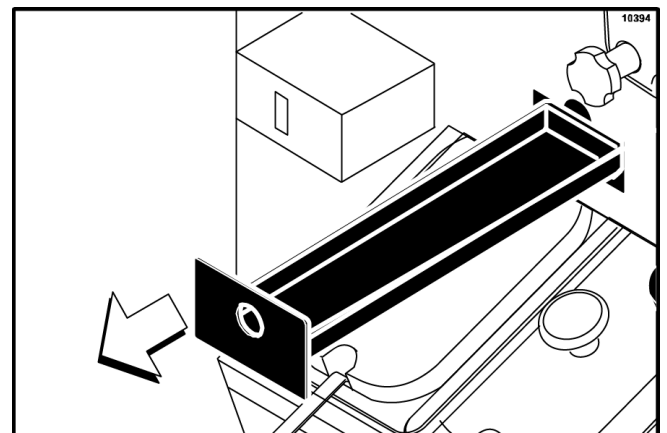

Figure-106
- Remove the long drip pan from the front panel. Take it to the sink for cleaning. (See Figure-106.)